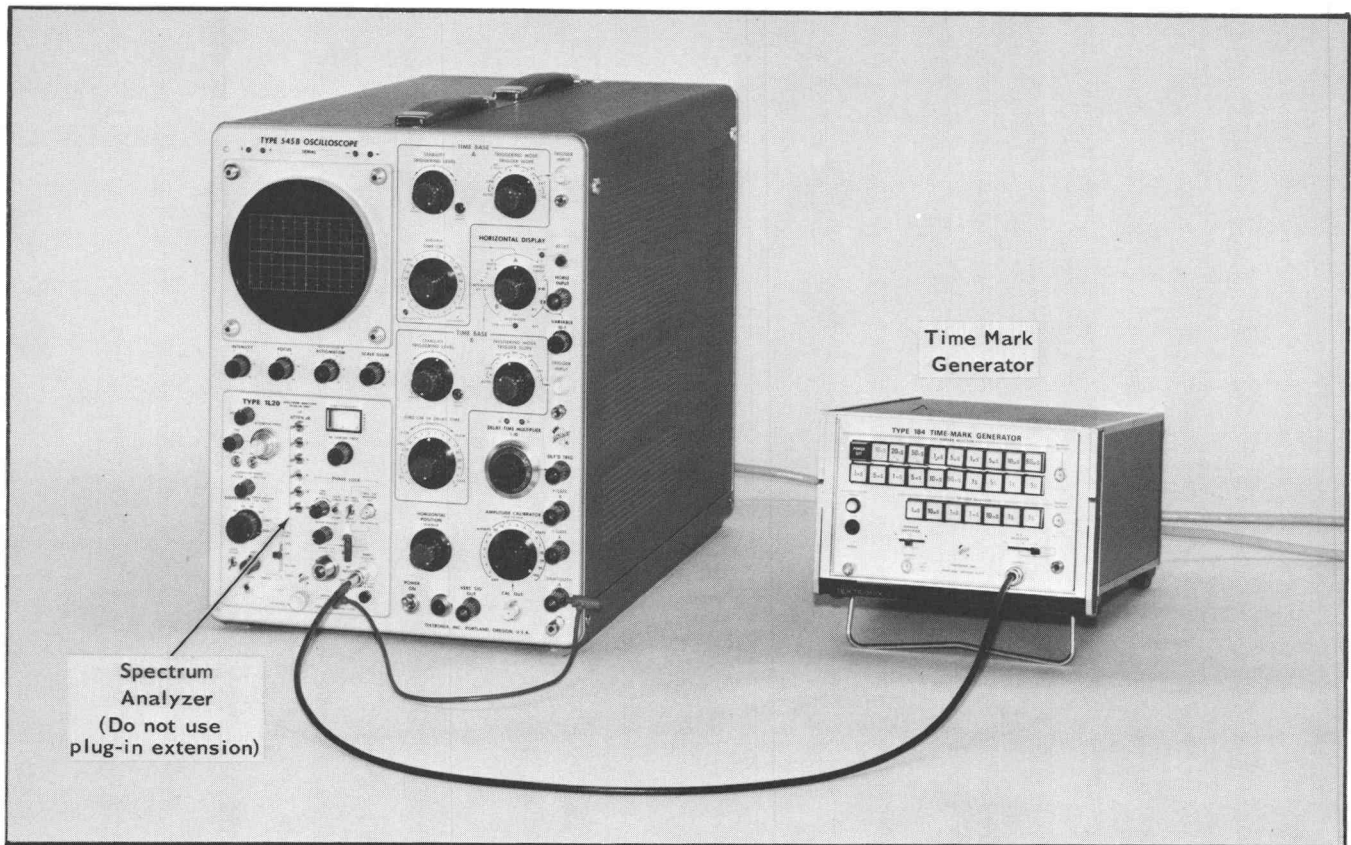

Fig. 6-24. Setup for checking Incidental Frequency-Modulation (Step 18).
- a. Set up the equipment as shown in Fig. 6-24.